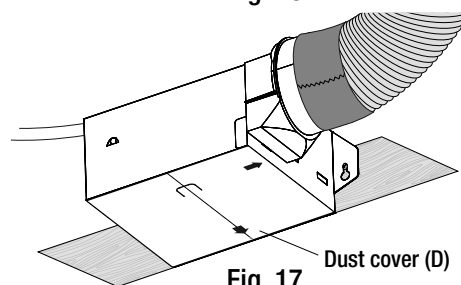

Fig. 17
- Once you are satisfied with your installation, protect the bath fan motor from construction dust and debris with the supplied dust cover (D) until construction is completed. See figure 17. Do not install the dust cover in finished construction. Do not operate the fan with the dust cover in place as it will damage the motor.